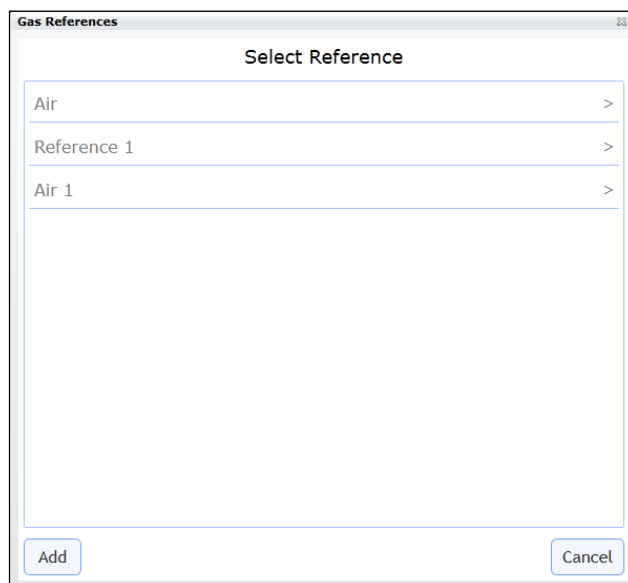
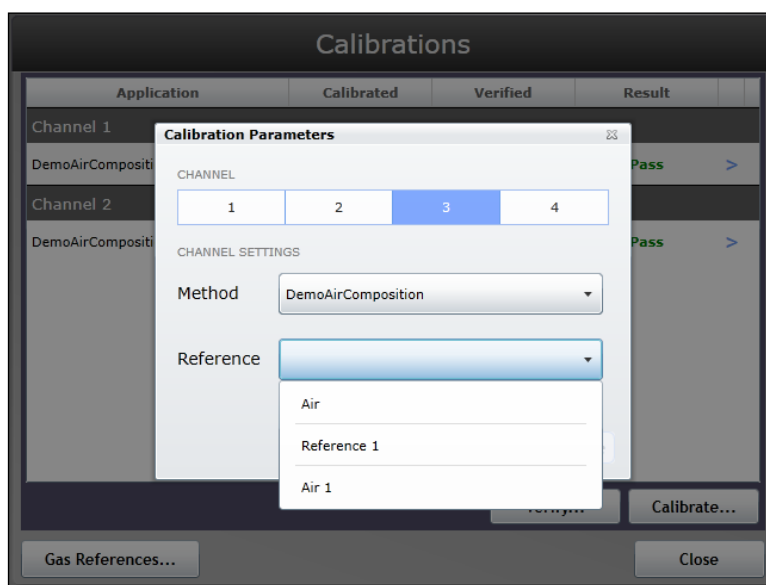

Figure 99. Select gas reference dialog with new reference gas
Figure 100. Select gas reference dialog
- Click **Save** to update this Reference gas. The new method will appear in the Gas References dialog (Figure 99) and in the pull-down menu for Reference in the Calibration Parameters dialog (Figure 100).